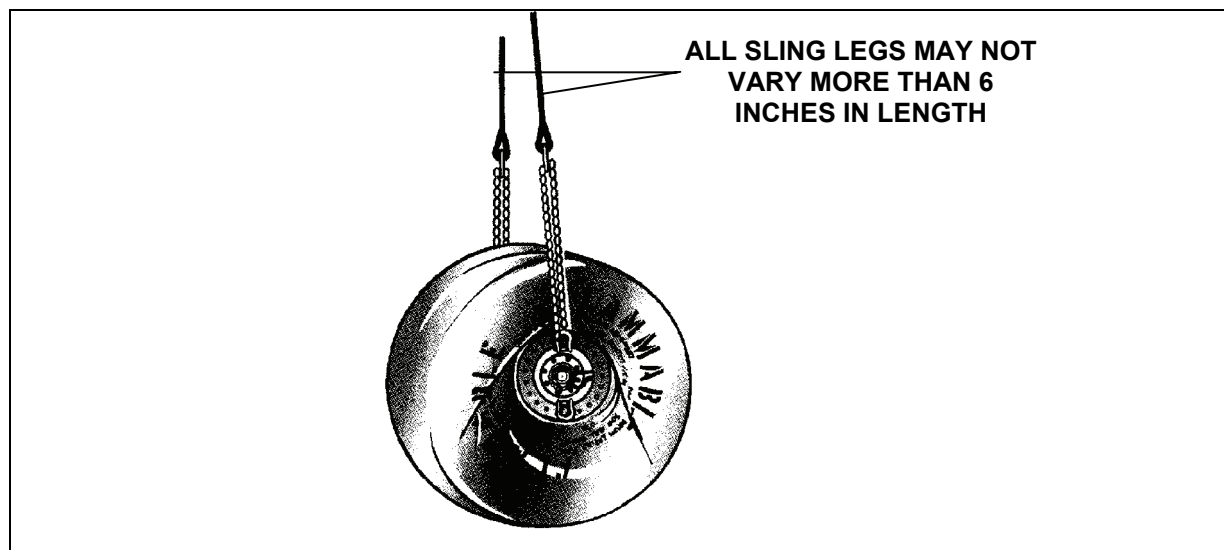

Figure 6-10. Load with Two Lift Points
- You may rig a load such as a fuel drum that has only two lift points. In this case, you may run two chains through each hookup point. This will allow the full capacity of the sling to be used. When using four sling legs and two lift points, all sling legs may not vary more than 6 inches in length. If the load is less than half the capacity of the sling set, you can use just two sling legs, one leg to each hookup point as shown in Figure 6-10. When using two sling legs, each sling leg of the pair may not vary more than 6 inches in length.